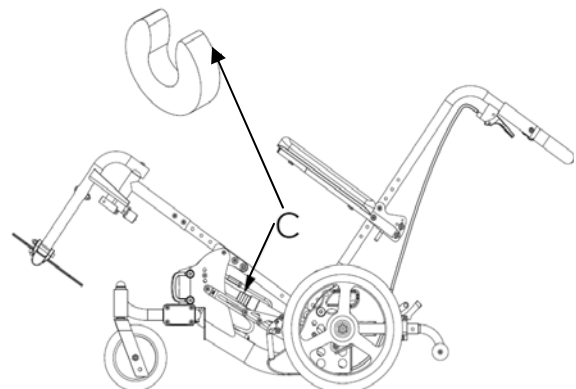

Fig. 10
- c. Insert sufficient tilt limiting discs (C in Figure 10) to eliminate the gap on the tilt strut rod.